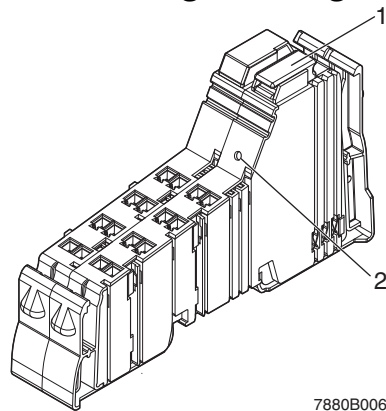

Figure 4-6 S-PORT and button
- Press the button (2 in Figure 4-6) with an appropriate tool, for example, a ball-point pen. This will start the copying process of the configuration and parameterization data.